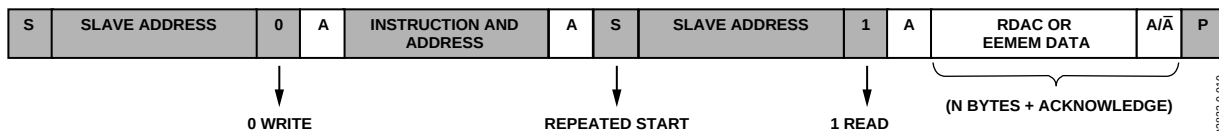
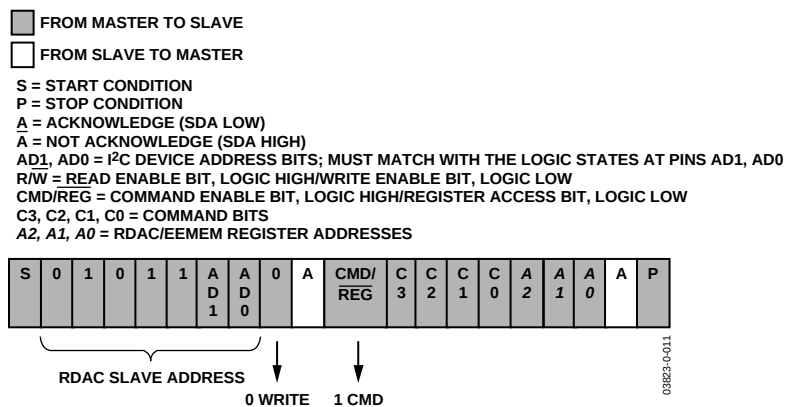
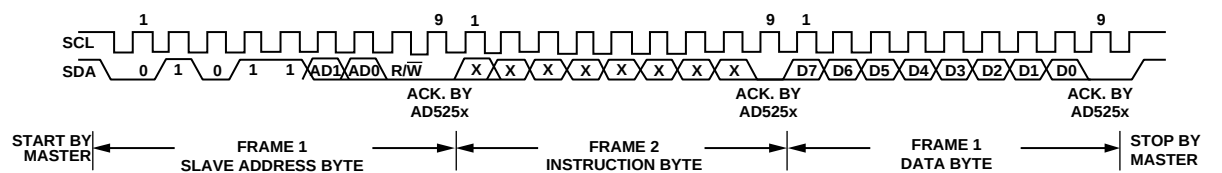
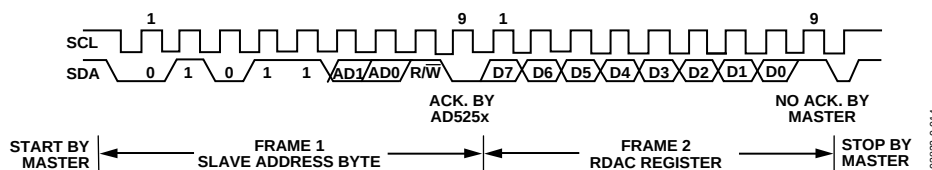

Figure 30. RDAC or EEMEM Random Read
Figure 31. RDAC Quick Command Write (Dummy Write)
Figure 33. General I²C Write Pattern
Figure 34. General I²C Read Pattern
Figure 30 illustrates a random RDAC or EEMEM read operation. This operation allows users to specify which RDAC or EEMEM register is read by issuing a dummy write command to change the RDAC address pointer and then proceeding with the RDAC read operation at the new address location.
The AD5251/AD5252 feature 12 quick commands that facilitate easy manipulation of RDAC wiper settings and provide RDAC-to-EEMEM storing and restoring functions. The command format is shown in Figure 31, and the command descriptions are shown in Table 9.
The first byte of the AD5251/AD5252 is a slave address byte (see Figure 33 and Figure 34). It has a 7-bit slave address and an $R/\overline{W}$ bit. The 5 MSB of the slave address is 01011, and the next 2 LSB is determined by the states of the AD1 and AD0 pins. AD1 and AD0 allow the user to place up to four AD5251/AD5252 devices on one bus.
AD5251/AD5252 can be controlled via an I²C-compatible serial bus and are connected to this bus as slave devices. The 2-wire I²C serial bus protocol (see Figure 33 and Figure 34) follows:
1. The master initiates a data transfer by establishing a start condition, such that SDA goes from high to low while SCL is high (see Figure 33). The following byte is the slave address byte, which consists of the 5 MSB of a slave address defined as 01011. The next two bits are AD1 and AD0, I²C device address bits. Depending on the states of their AD1 and AD0 bits, four AD5251/AD5252 devices can be addressed on the same bus. The last LSB, the R/W bit, determines whether data is read from or written to the slave device.
the addresses of the EEMEM and RDAC registers (see Figure 27 and Figure 28). When MSB = 1 or when the device is in CMD mode, the four bits following the MSB are C3 to C1, which correspond to 12 predefined EEMEM controls and quick commands; there are also four factory-reserved commands. The 3 LSB—A2, A1, and A0—are addresses, but only 001 and 011 are used for RDAC1 and RDAC3, respectively (see Figure 31). After acknowledging the instruction byte, the last byte in the write mode is the data byte. Data is transmitted over the serial bus in sequences of nine clock pulses (eight data bits followed by an acknowledge bit). The transitions on the SDA line must occur during the low period of SCL and remain stable during the high period of SCL (see Figure 33).
3. In current read mode, the RDAC0 data byte immediately follows the acknowledgment of the slave address byte. After an acknowledgement, RDAC1 follows, then RDAC2, and so on. (There is a slight difference in write mode, where the last eight data bits representing RDAC3 data are followed by a no acknowledge bit.) Similarly, the transitions on the SDA line must occur during the low period of SCL and remain stable during the high period of SCL (see Figure 34). Another reading method, random read method, is shown in Figure 30.
4. When all data bits have been read or written, a stop condition is established by the master. A stop condition is defined as a low-to-high transition on the SDA line that occurs while SCL is high. In write mode, the master pulls the SDA line high during the 10th clock pulse to establish a stop condition (see Figure 33). In read mode, the master issues a no acknowledge for the ninth clock pulse, that is, the SDA line remains high. The master brings the SDA line low before the 10th clock pulse and then brings the SDA line high to establish a stop condition (see Figure 34).